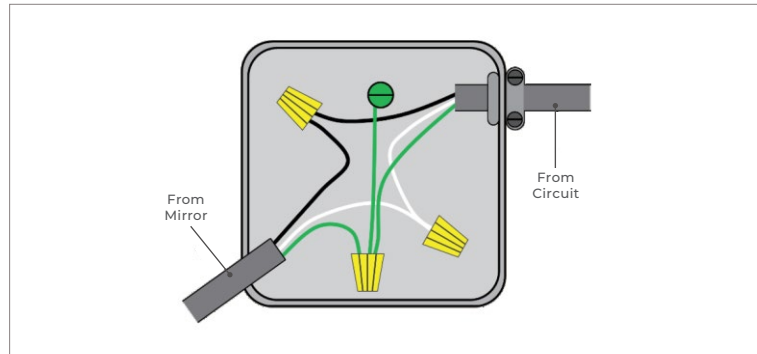

FIGURE 3
F) Make electrical connections (Line - black to black, Neutral - white to white, Ground - green/bare wire to green/bare wire) from junction box and circuit to the mirror using wire nuts or other connectors. (FIGURE 3)
G) Hang the mirror by aligning the (2) mounting notches on the back of the mirror mounting bar with the protruding mounting screws installed in the wall. Make sure all mounting screws are inserted into the mirror mounting bar and the mirror is securely fastened to the wall.